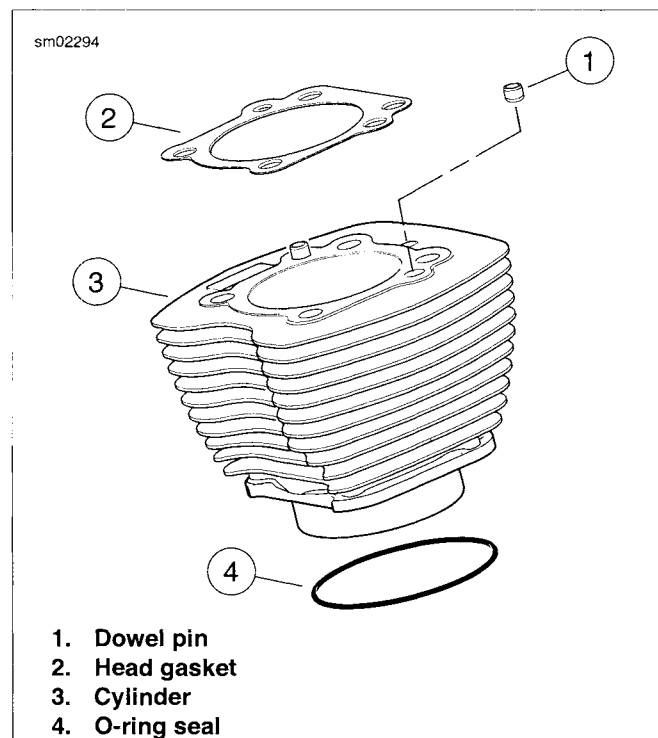

Figure 3-26. Cylinder Assembly
5. See Figure 3-26. Remove O-ring seal (4) from the bottom of the cylinder liner. Discard O-ring seal.